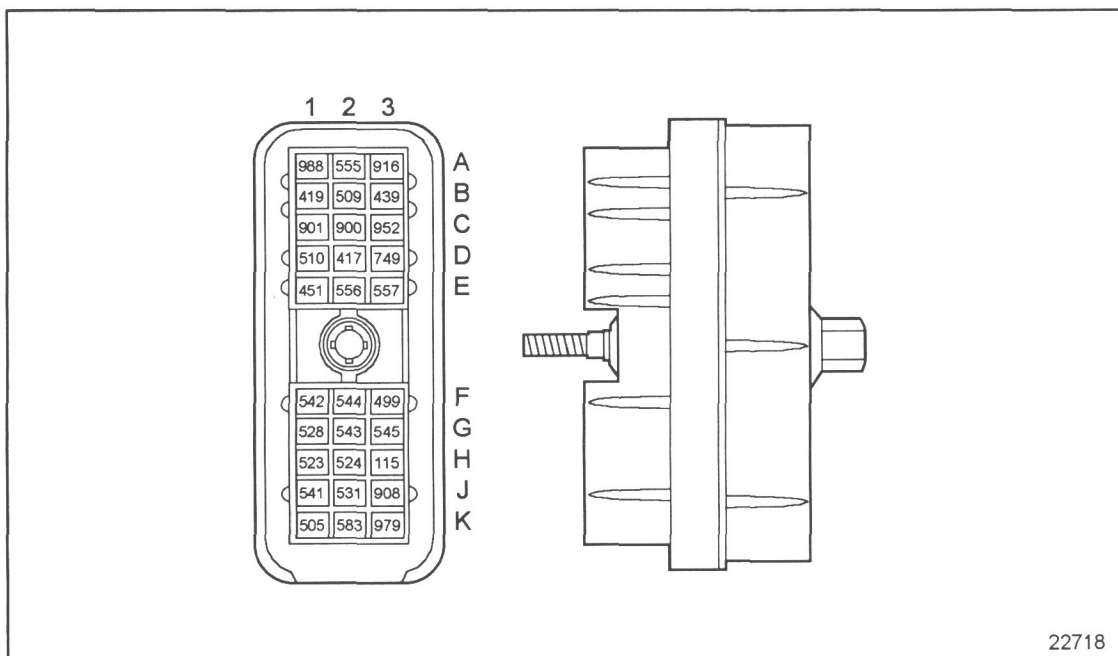

Figure 54-6 ECM Vehicle Interface Harness Connector
3. Measure resistance between sockets E2 and a good ground. See Figure 54-6.